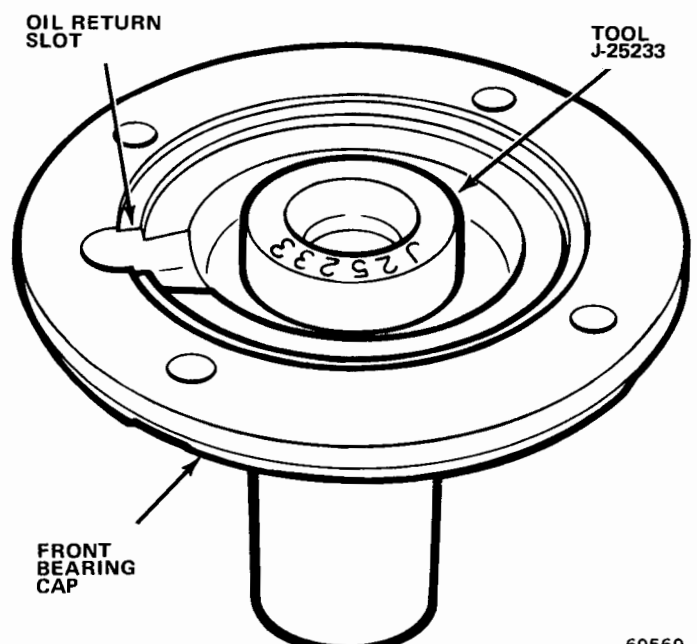
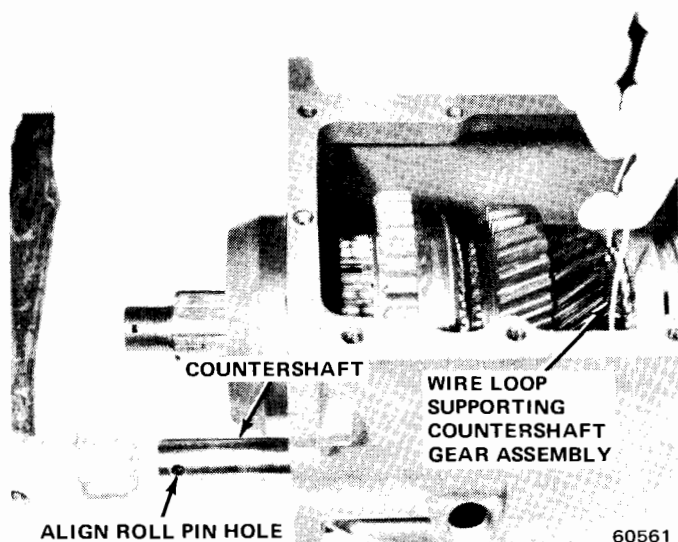

Fig. 6-15 Front Bearing Cap Oil Seal Installation
Fig. 6-16 Installing Countershaft
(29) Apply thin film of sealer to front bearing cap gasket and position gasket on case. Be sure cutout in gasket is aligned with oil return hole in case.
(30) Remove front bearing cap oil seal with screwdriver. Install new oil seal with Tool J-25233 (fig. 6-15).
(31) Install front bearing cap and tighten attaching bolts to 33 foot-pounds torque. Be sure to index cap to case with alignment marks, and that oil return slot in cap is aligned with oil return hole in case.
(32) Make wire loop about 18 to 20 inches long and pass wire under countershaft gear assembly. Wire loop should raise and support gear assembly when loop is pulled upward.
(33) Raise countershaft gear with wire loop (fig. 6-16), align bore in countershaft gear with front thrust washer and countershaft, and start countershaft into gear using plastic hammer (fig. 6-16).
(34) Align roll pin hole in countershaft and roll pin holes in case (fig. 6-16) and complete installation of countershaft. Install countershaft access plug in rear of case and seat plug with plastic hammer.
(35) Install countershaft roll pin in case. Use magnet or needlenose pliers to insert and start pin in case. Use 1/2-inch diameter punch to seat pin and install fill plug.
(36) Shift synchronizer sleeves into all gear positions and check operation. If clutch shaft and main shaft appear to bind in Neutral position, check for blocking rings sticking on First or Second speed gear tapers.
(37) Attach transmission to transfer case. Tighten attaching bolts to 30 foot-pounds torque.